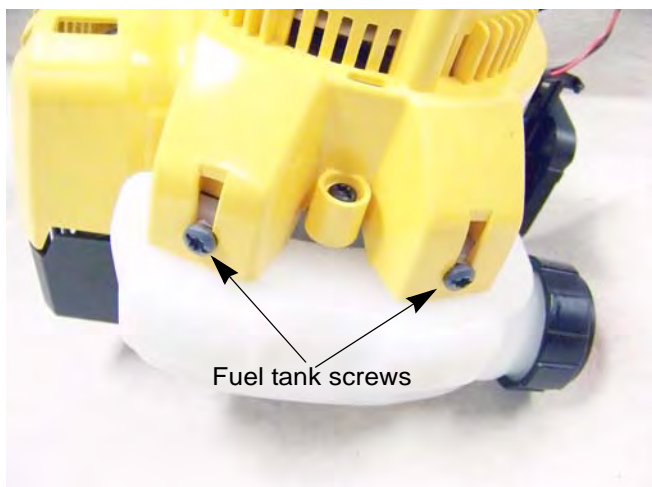

Figure 6.2
5. Remove the three screws in the front of the starter housing. See Figure 6.2.